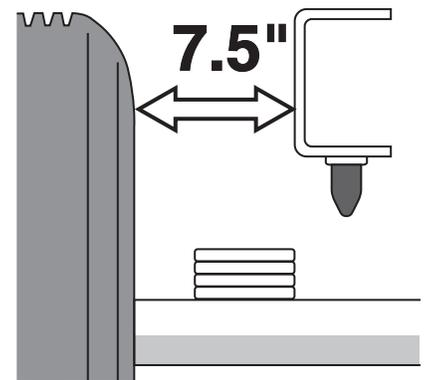

fig. 3
4. Measure the distance between the frame and the tire. This kit requires a minimum of 7.5” of clearance for a fully inflated air spring (Figure 3).